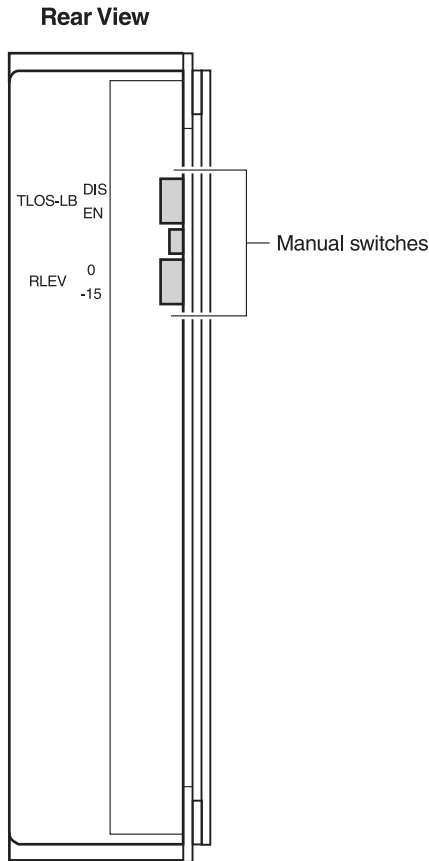

Figure 2. HRU-412 List 8B Back Panel (Rear View)
- 1 Press the loopback button (see Figure 2 for the location of this button) for at least five seconds.